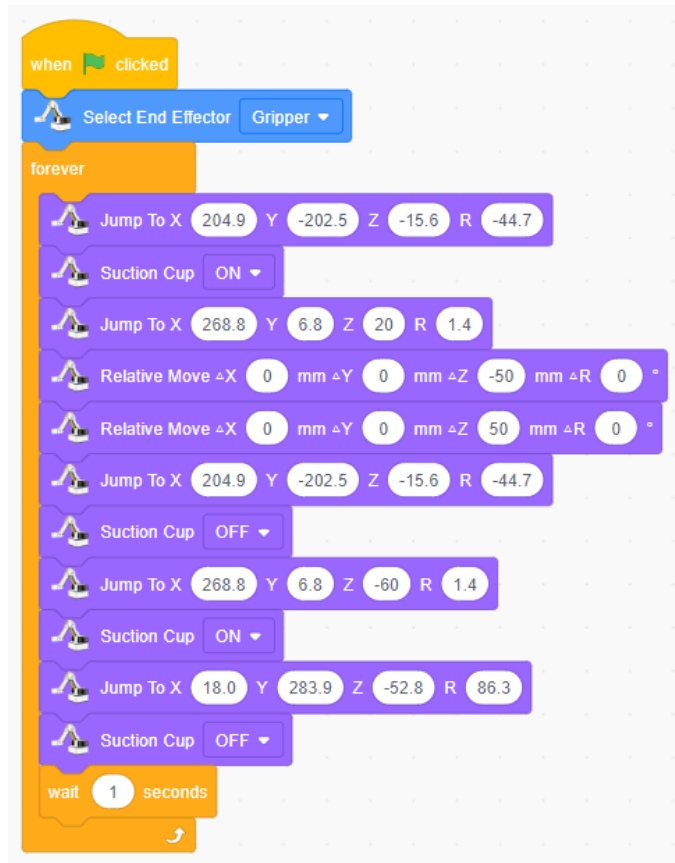

Figure 1.28 Infinite-time stamping
Step 9: Integrate the program, as shown in Figure 1.28.